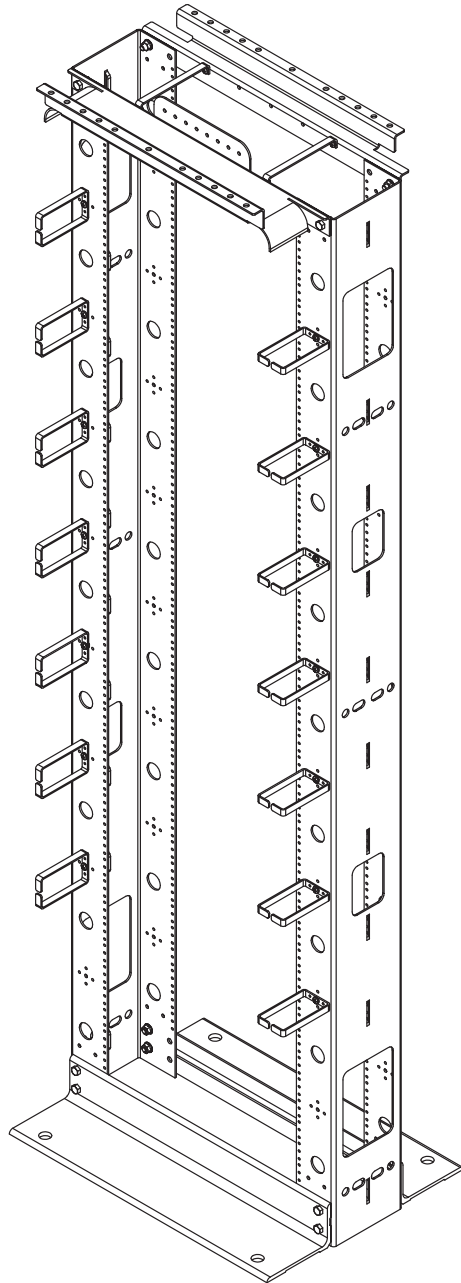

Figure 6
14. Place rack in desired location and mount to floor securely before installing equipment. See Figure 6.